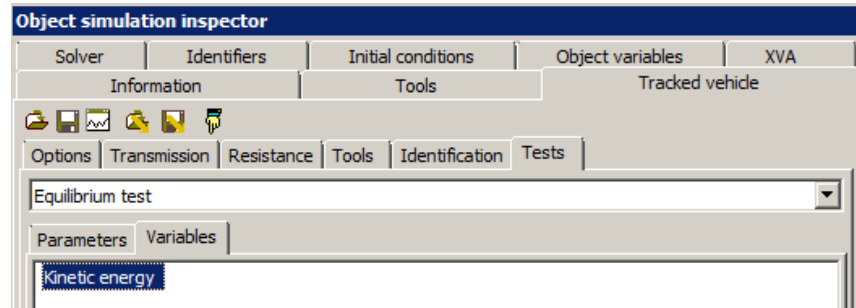

Figure 2.4. Equilibrium test
1. Load the model of TV in **UM Simulation**. Open the Object simulation inspector by the **Analysis | Simulation...** menu command. Open the **Tracked vehicle | Tests** tab. Select the **Equilibrium test** from the drop-down list, Figure 2.4.